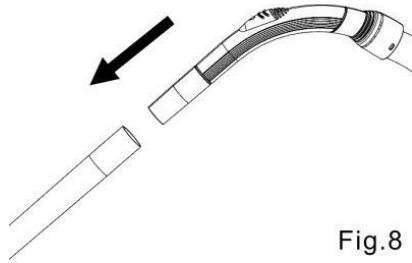

Fig.8
Step 8: Insert curved tube of the hose into the adjustable tube (Fig. 8). Make sure the connection is tight.